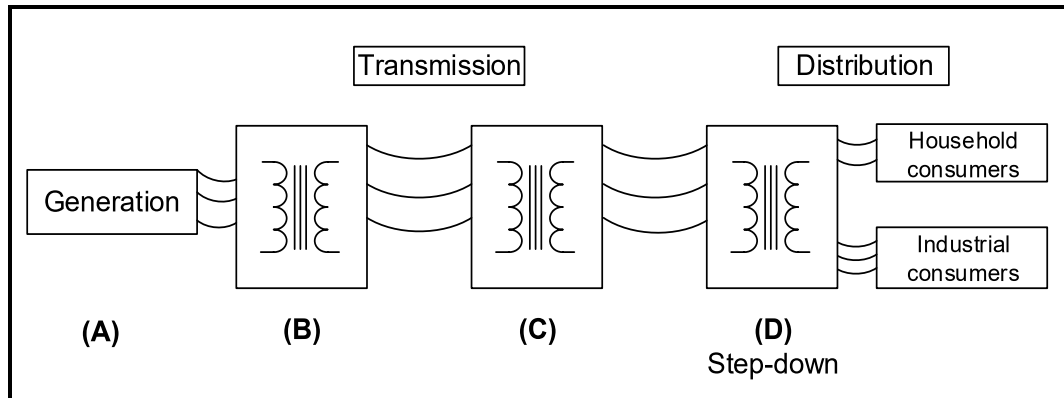

FIGURE 4.1: THE NATIONAL POWER GRID
4.1 Refer to FIGURE 4.1 below and answer the questions that follow.
4.1.5 Draw a neatly labelled waveform generated at **(A)** in FIGURE 4.1 above. (4)